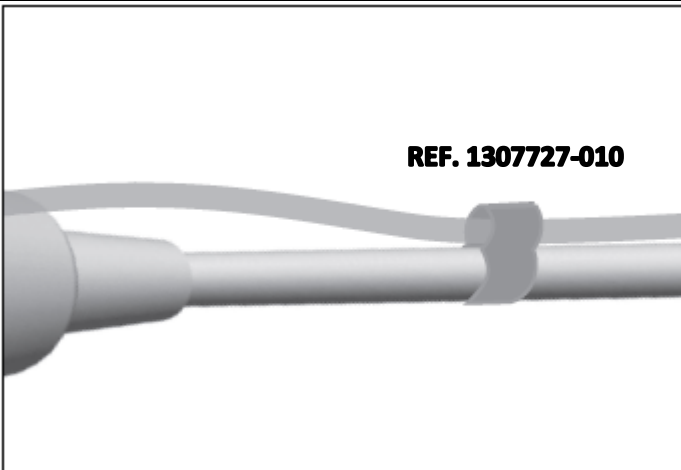

fig. 9
M. Attach the irrigation line on the motor cable using the attachment collars REF 1307727-010 **fig. 9**.